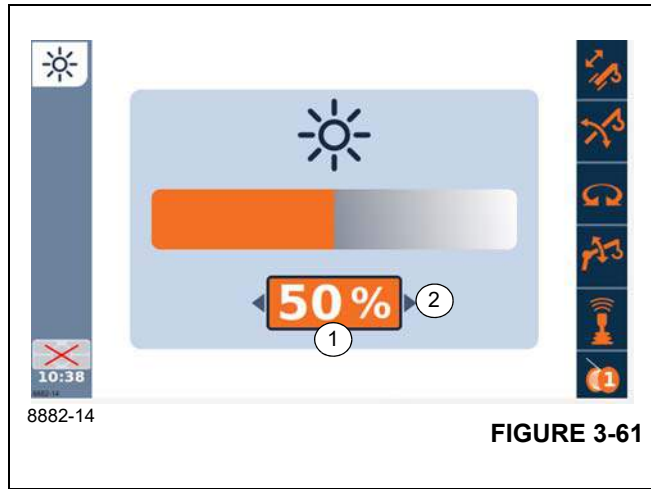

FIGURE 3-61
- Select the symbol (1), (Figure 3-61).
An arrow appears on the left and right of the percentage (2), (Figure 3-61).
The brightness of the display changes while setting and you can view the set value (0 to 100%) on the display (2), (Figure 3-61).